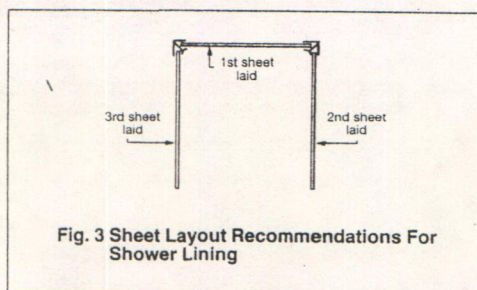

Fig. 3 Sheet Layout Recommendations For Shower Lining
- The fixing sequence of the sheets is important. (Refer Fig. 3)